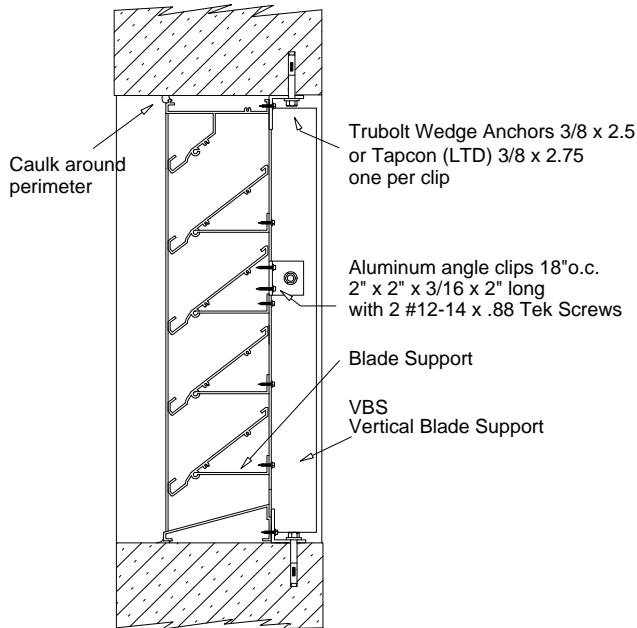

Fig. 1 – IC-638-1
1. **Anchoring into Concrete or Masonry:** See **Fig. 1 & 2**, Model **IC-638-1, IC-638-2** for detailed instructions.
2. Install louver into opening. Shim as required at each set of installation anchors using load-bearing shims. Max allowable shim stack to be $\frac{1}{4}$ ". Use shims where space greater than $\frac{1}{16}$ " is present. Fasten angle clips to IC-638-1 louver with two (2) # 12-14 x .88 TEK screws. Use $\frac{3}{8}$ " Dia. Trubolt wedge anchors of sufficient length to achieve min. of 3" embedment into concrete or masonry with min. 3" edge distance.